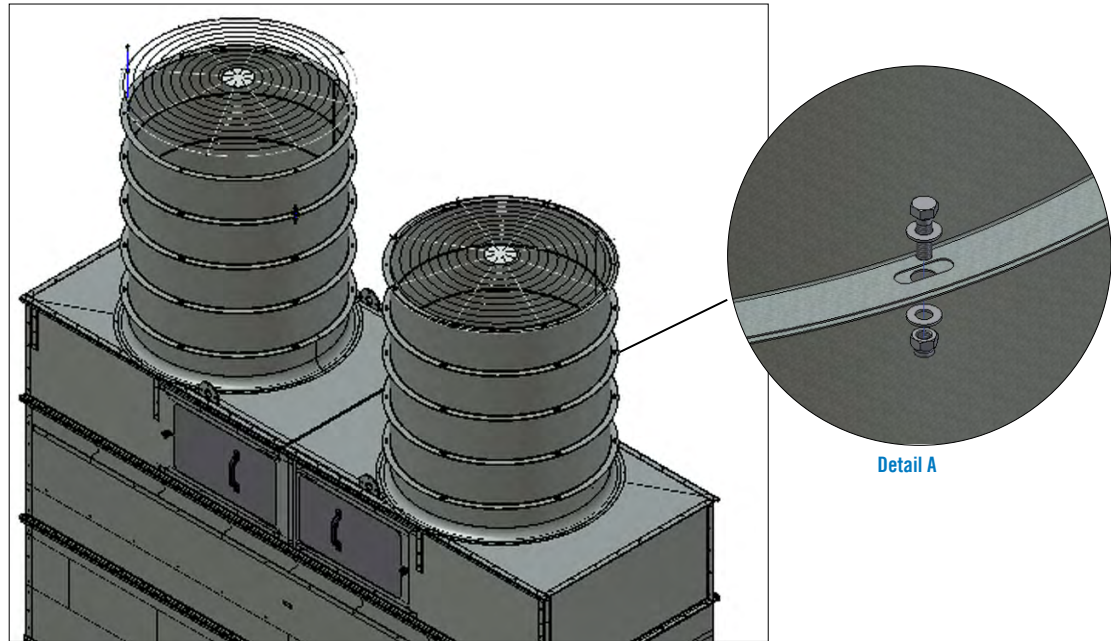

Figure 19. Fan Cowl Extensions
1. Fasten the fan cowl extensions through the large diameter pre-punched holes using the provided hardware as shown in **Figure 19, Detail A**.